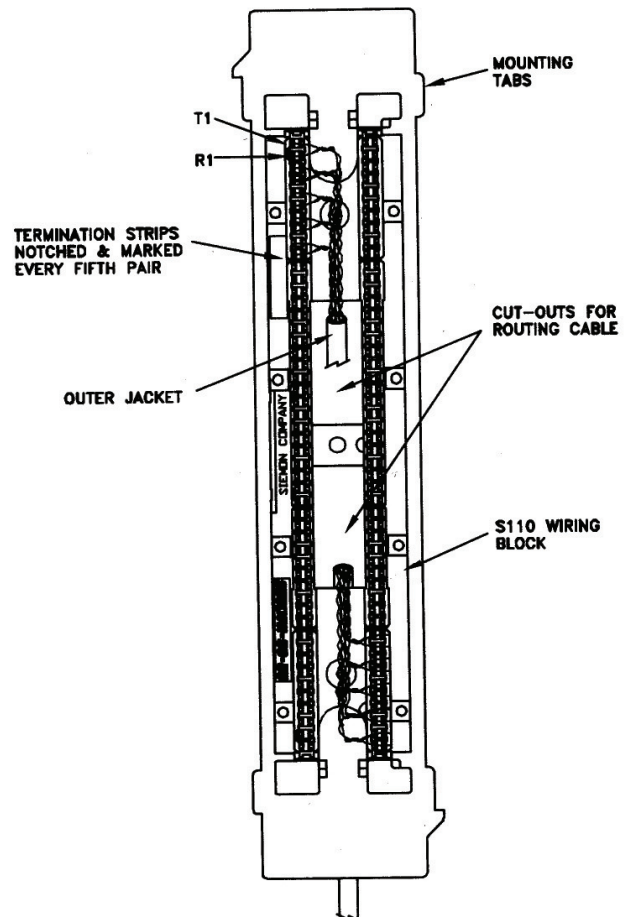

Figure 2
2. To terminate cables to the wiring block, remove or strip back only the length of cable jacket required for termination and trimming. Seat individual pairs in the termination strip as shown in Figure 2. (Cut-outs have been provided for optional cable access through the back of the wiring block.)
Typically, cable entering from the top is terminated on the left side, and cable entering from the bottom is terminated on the right side of the connecting block. (See Figure 2). This option may be reversed if desired.